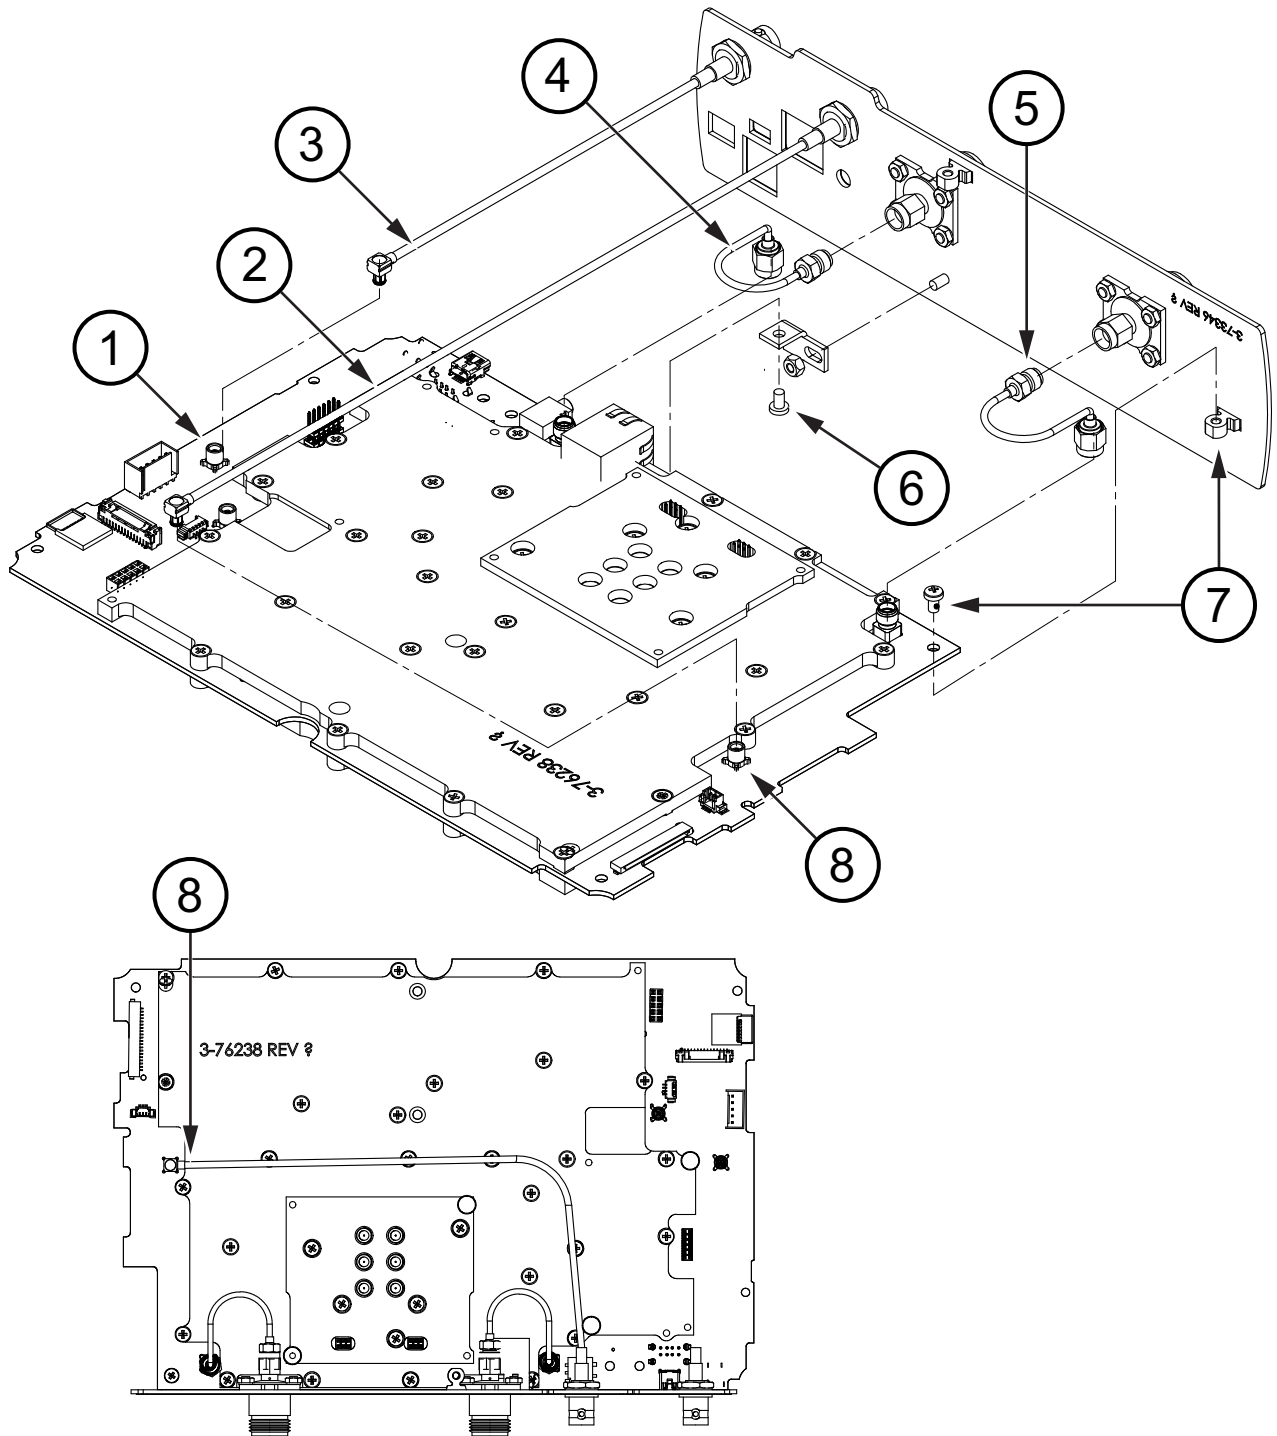
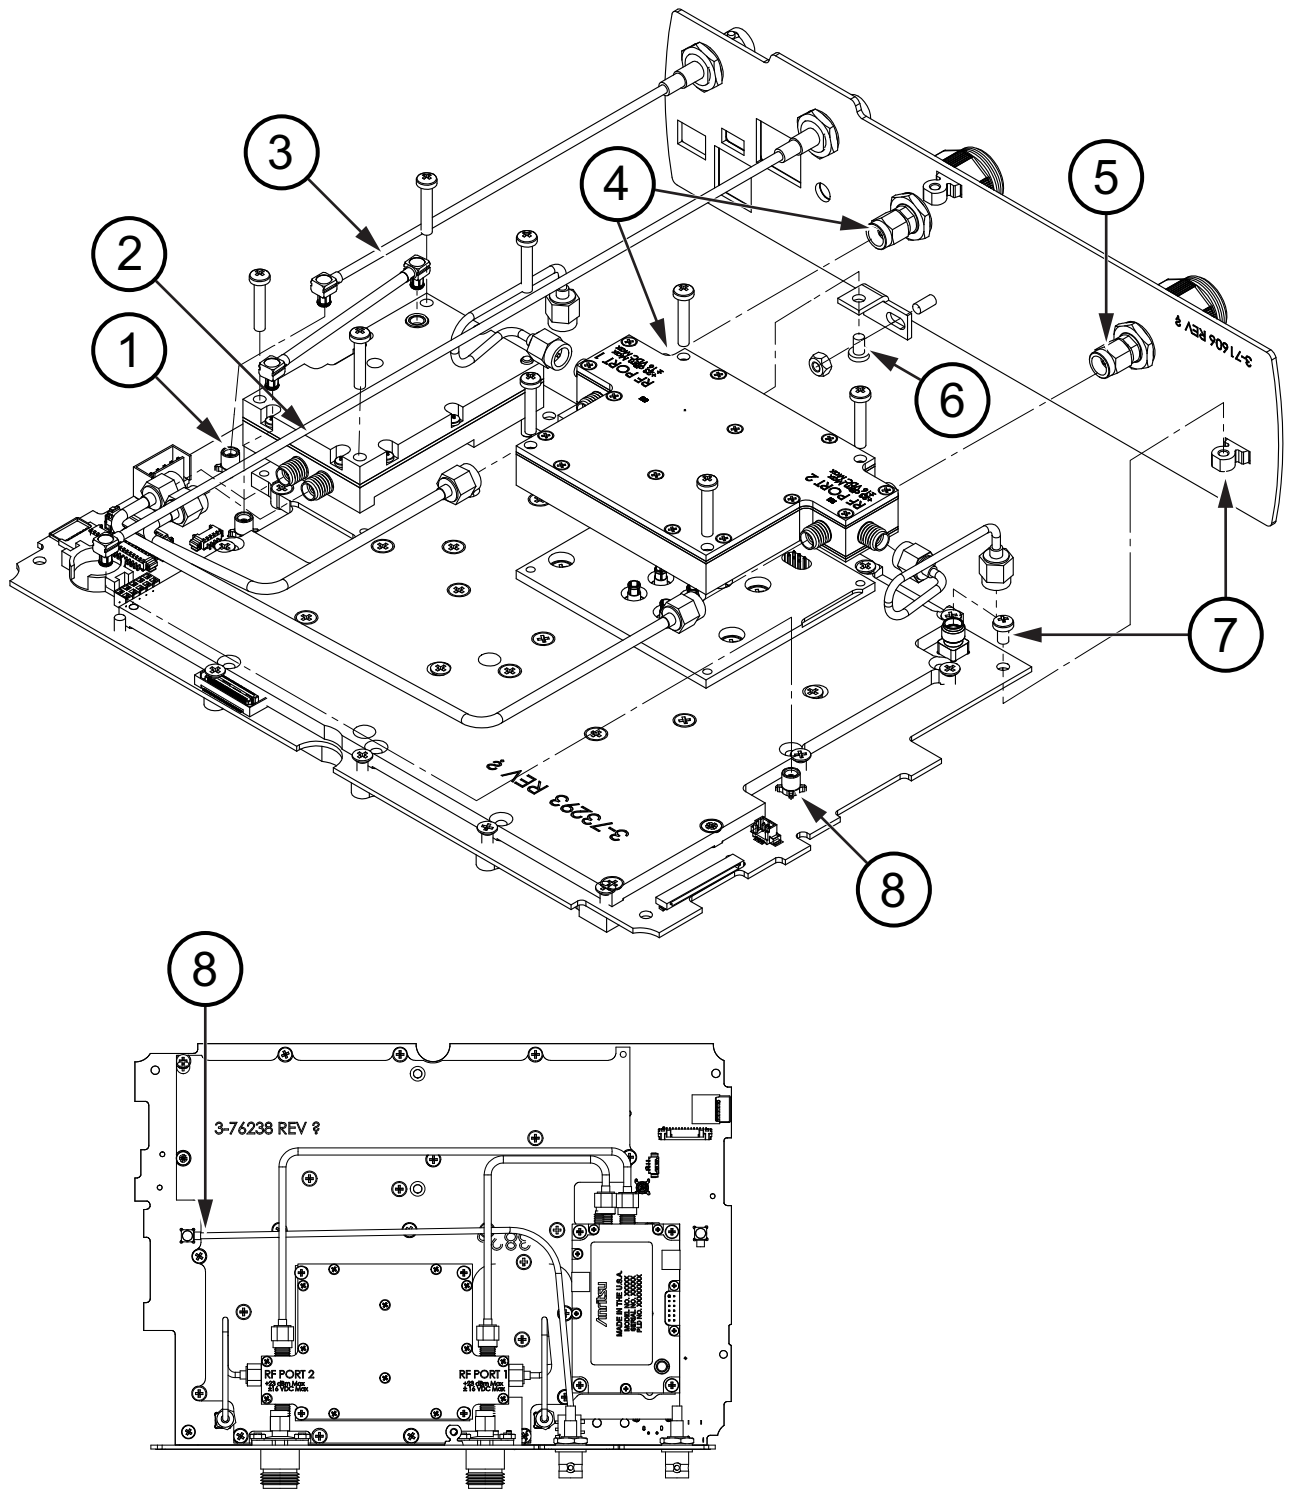

Figure 4-22. Main PCB and Connector Panel for 8 GHz Option
Figure 4-23. Main PCB and Connector Panel (all except 8 GHz option)
Refer to Figure 4-22 on page 4-27 for items in this procedure.
Refer to Figure 4-23 on page 4-29 for items in this procedure.
1. For Option 714, Option 720, Option 730, and Option 740 assemblies, torque the SMA connectors (at Port 1 and Port 2) to 8.0 lbf · in (0.90 N · m). Refer to item 4 and item 5 in Figure 4-23 on page 4-29.
2. Secure the connector panel to the Main/VNA PCB by tightening the two pan head Phillips screws to a torque of 7.5 lbf · in (0.85 N · m). Refer to item 6 and item 7 in Figure 4-23 on page 4-29, or refer to item 6 and item 7 in Figure 4-22 on page 4-27.
3. For Option 708 assemblies, torque the SMA connectors of the U-loop semi-rigid cables between the port connectors and the Main/VNA PCB assembly to 8.0 lbf · in (0.90 N · m). Refer to item 4 and item 5 in Figure 4-22 on page 4-27.
4. Reconnect the MCX cables from the External Reference In connector and the External Trigger In connector to the MCX connections on the PCB (J30 is shown as item 1, and J34 is shown as item 8). Refer to Figure 4-22 on page 4-27 or Figure 4-23 on page 4-29.